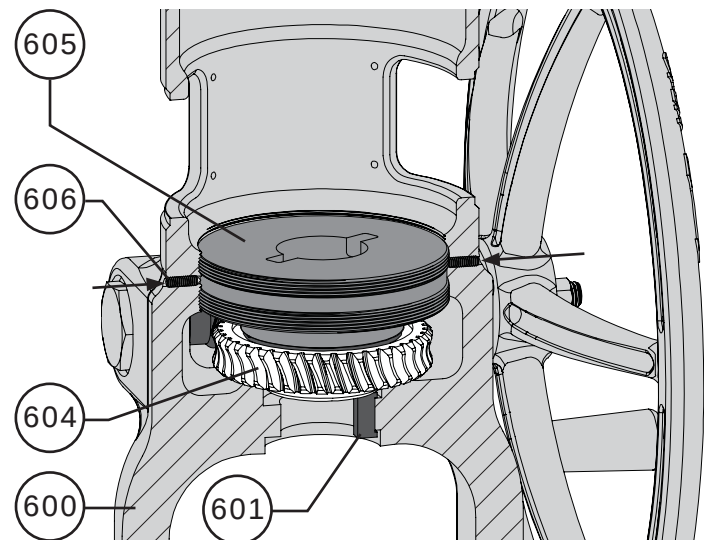

Figure 93 Set Screw Tightening - Step 10
- 10 A channel is cut in the middle of the threads for the bearing retainer flange (Key 605). Thread the bearing retainer flange into the yoke (Key 600) so that the channel in the bearing retainer flange aligns with the set screws (Key 606). Tighten the set screws. Refer to Figure 93.